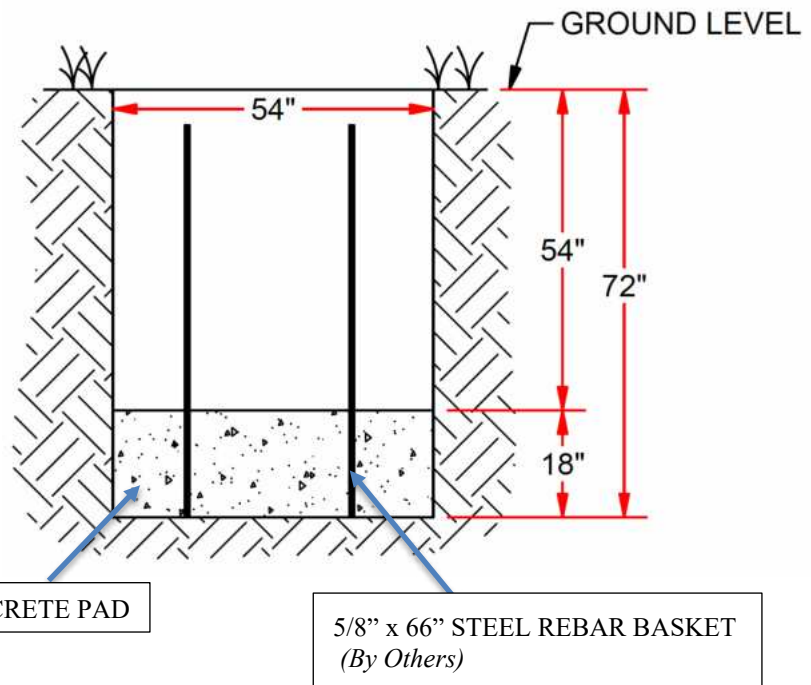

FIGURE: 2
2. Excavate the footing holes to the dimensions shown in figure 2. **These are suggested dimensions for average soil conditions, consult local building codes. Dimensions may need to be adjusted in areas subject to high wind loads.**
3. Pour a concrete pad at a height so the foul pole or sleeve is imbedded 54" deep. A six-piece rebar basket is recommended, allow to cure for 24 hours (see figure 2).